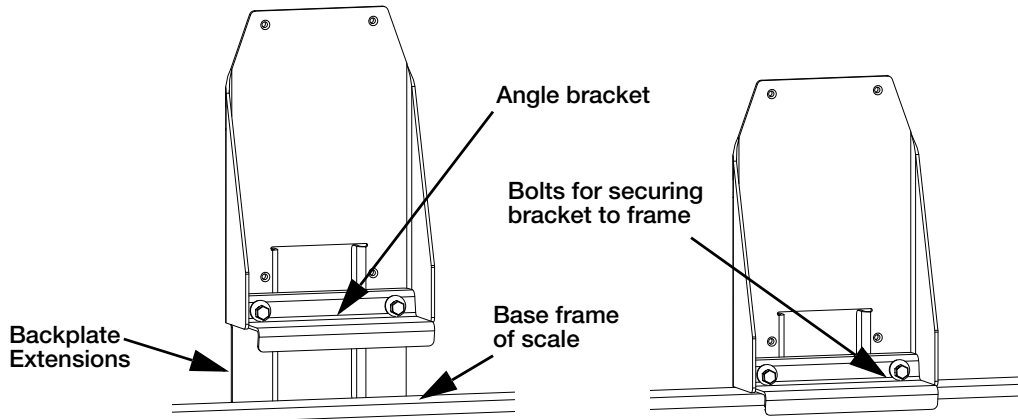

Figure 2-7. Mounting Power Box Assembly to Frame
2. Connect the power wires as shown in Figure 2-7.